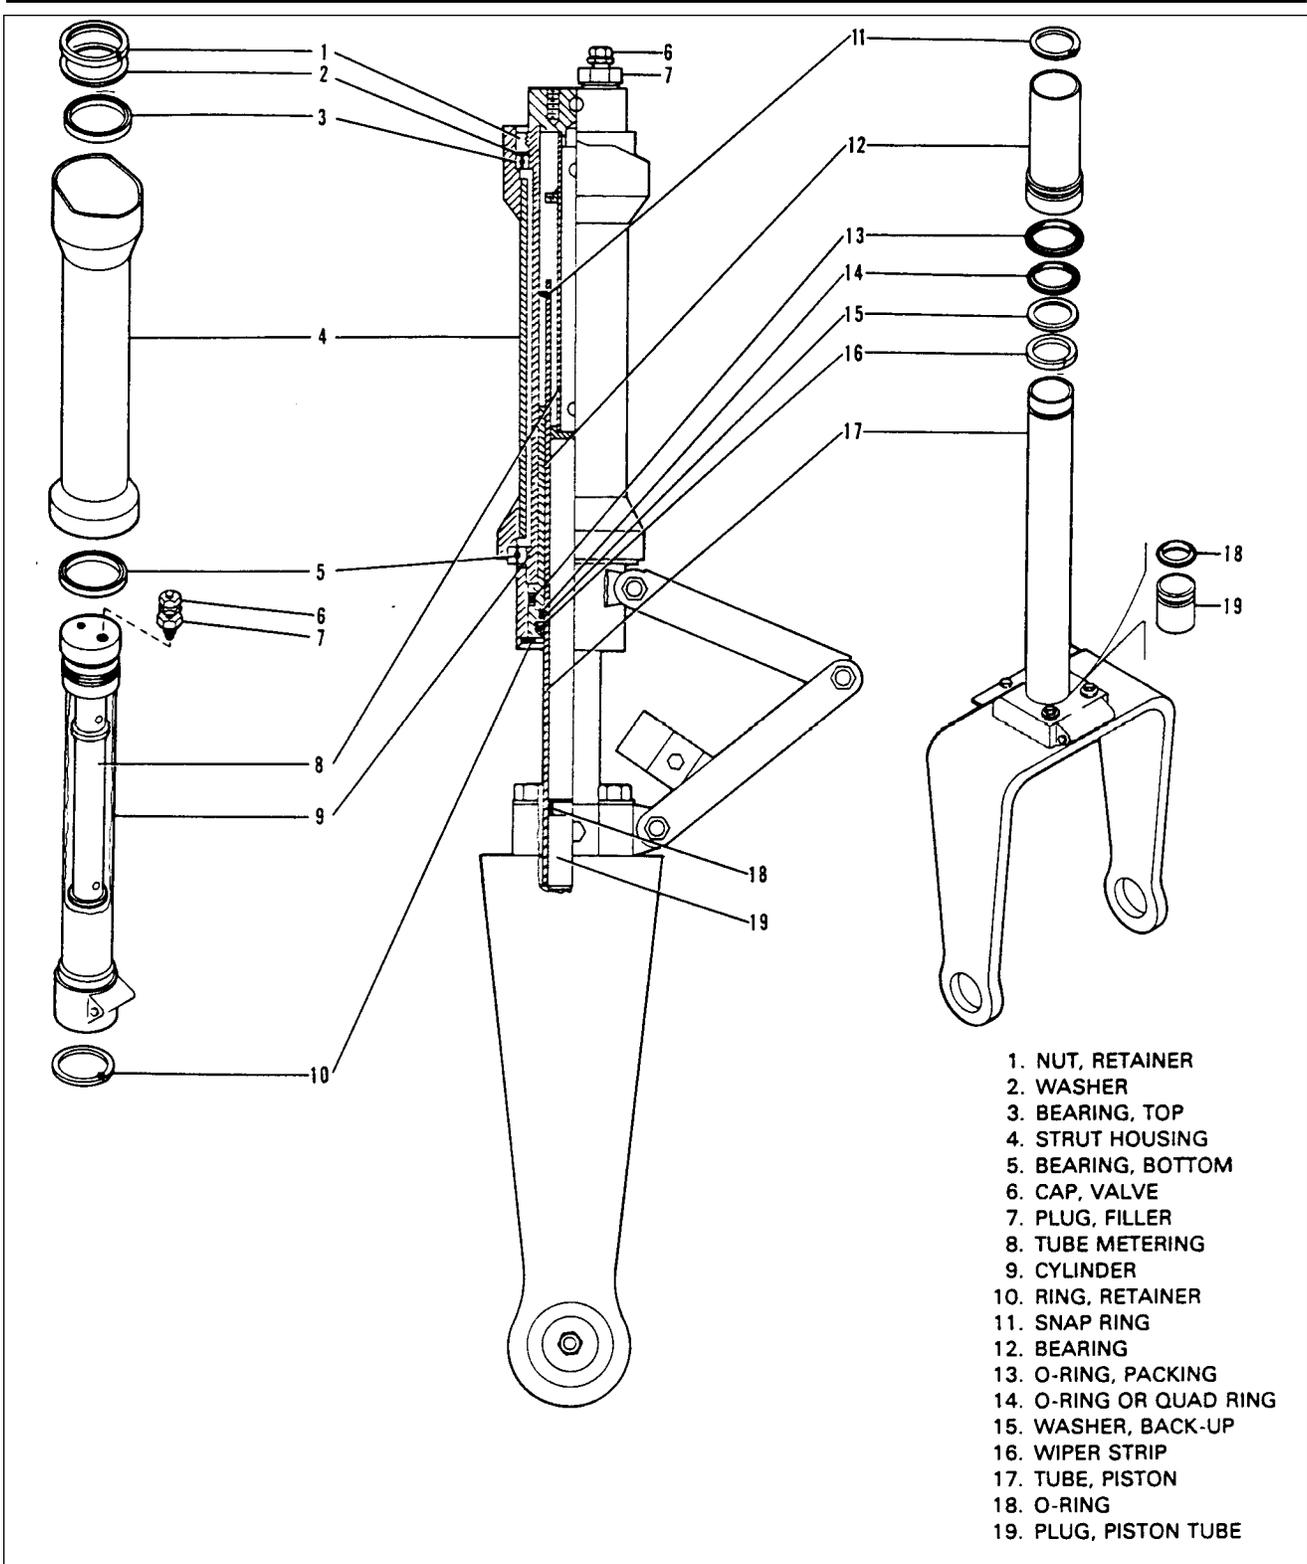

Figure 32-3. Nose Gear Oleo Strut Assembly
#### **DISASSEMBLY OF NOSE GEAR OLEO (figure 32-3)**
**NOSE GEAR OIL ORIFICE RETAINER RING INSTALLATION** (figures 32-3 and 32-4)
**ASSEMBLY OF NOSE GEAR OLEO** (figure 32-3)